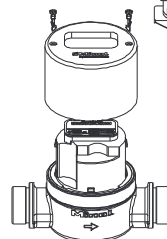

Fig. 8
- 2.14. Turn the counter to the reading position. Slide the cap for sealing over the counter. Insert the plastic seals (anti-dismantling protection) with the barbed hook inwards into the sealing hole of the cap and snap into place (Fig. 8).